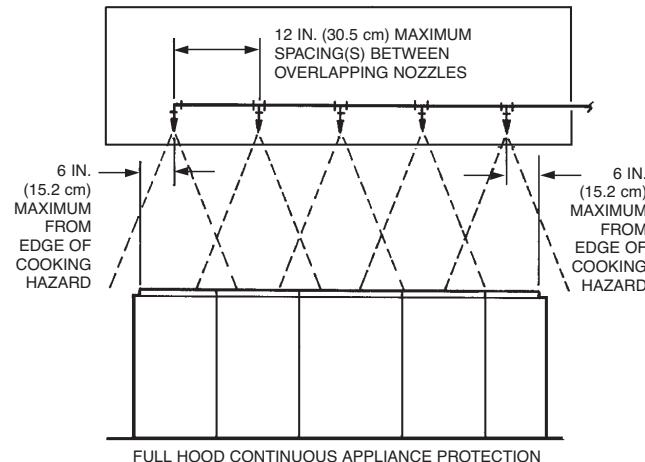
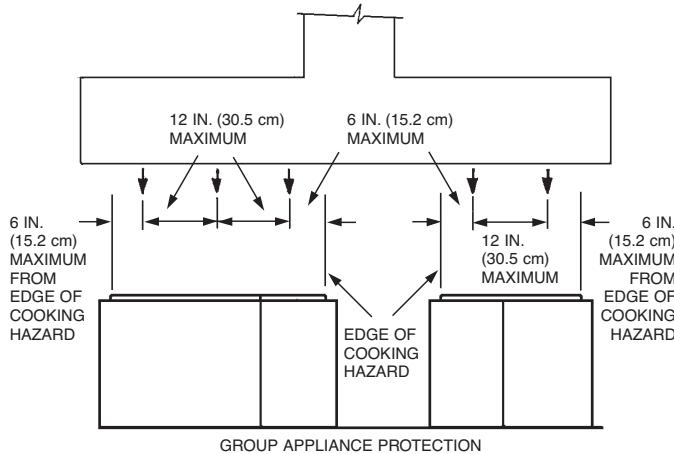

FIGURE 91d
FIGURE 91e
See Figure 91d (full hood continuous protection) and Figure 91e (multiple group protection).
- For each group of protected appliances under a common hood(s), the overlapping nozzles must be located from right to left so that each end nozzle is located a maximum of 6 in. (15.2 cm) inside the outside edge of the cooking hazard of each end appliance, and the inside overlapping nozzles must be located between the two end nozzles at a maximum spacing of 12 in. (30.5 cm). See Figures 91d and 91e.